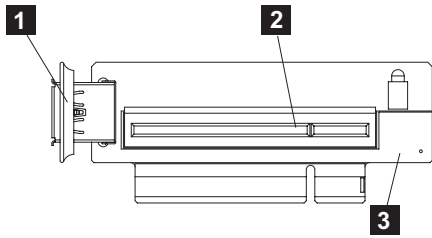

Figure 202. USB riser-card assembly (SAN Volume Controller 2145-CF8 shown)
7. Remove the USB service-controller cable from the USB connection (**1** in Figure 202 on page 206) on the disk-controller and USB riser-card assembly (**3**), as described in “Removing and replacing the SAN Volume Controller 2145-CG8 or 2145-CF8 service controller cable” on page 87.